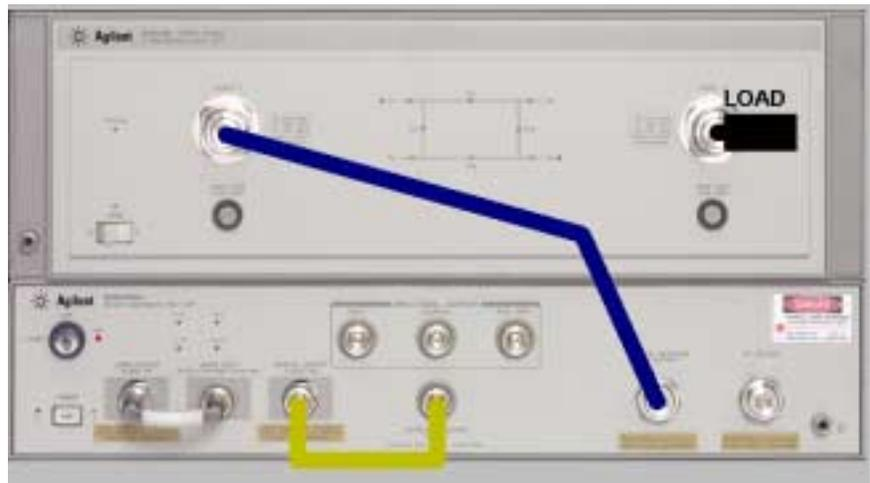

Figure 4-8. Connections for O/E Bandwidth Response Calibration (Std1), and O/E Bandwidth Response & Isolation Calibration (Std1, Std2)
Pre-Conditions: The connections in Figure 4-8 on page 4-49 have been made on the instrument.
- Pre-Conditions:** The connections in Figure 4-8 on page 4-49 have been made on the instrument.
- Pre-Conditions:** OEBWRESPNISOL_STD1 have already been performed. The connections in Figure 4-8 on page 4-49 have been made on the instrument.